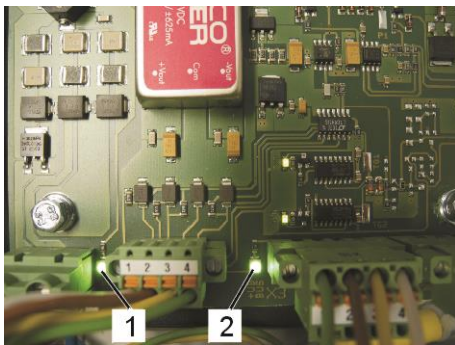

Fig.108: LED on
- ↳ The LED at the connectors X1, X2 and X3 (Fig.108/1+2) must be on.
If there is still no power (green LED in Fig.108 off) and there is no voltage measurable at the main supply inlet: